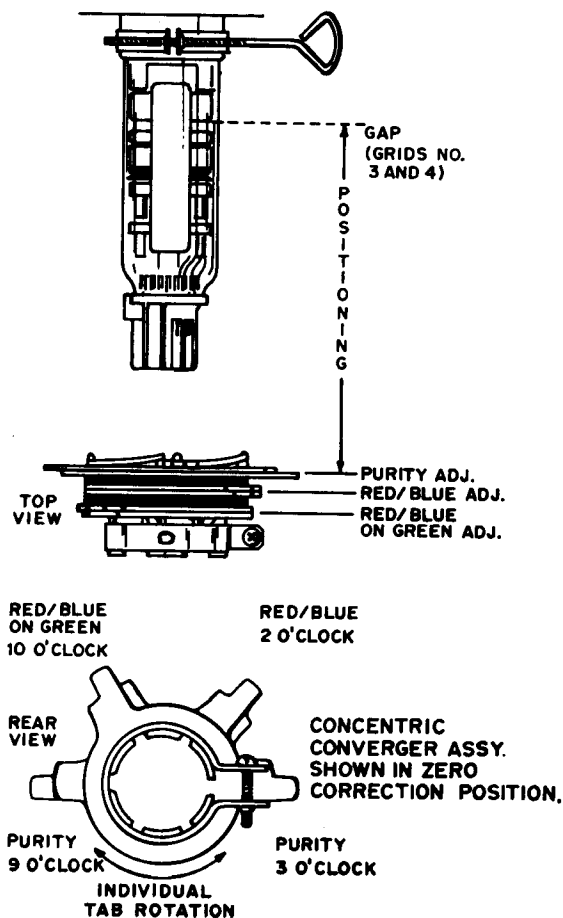

FIGURE 3
- 2.2 Set the converger assembly on the CRT neck with the center line (of the Purity Adjustment Magnet) over the gap between grids no. 3 & 4. (See Figure 3).